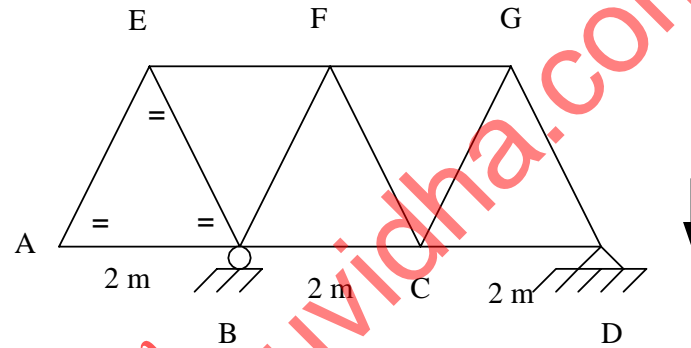

Fig. 5 Q.3 (a) OR
- Q.3** (a) Draw influence lines diagrams for the axial forces in the members BC, CF and FG in the truss shown in Fig. 5. **07**